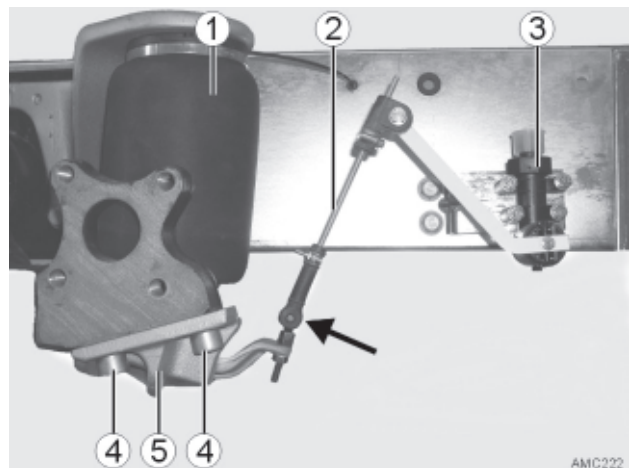

Fig. 51
19. Remove air bellows (Fig 51 - 1) as per chapter 7.2.
20. Unhook air sensor (Fig 51 -3) for the path sensor rod assembly (Fig 51 -2) (Fig 51 - Arrow).
21. Unscrew two M16x1.5x30 socket head cap bolts (Fig 51 - 4) from the bottom air bellows (Fig 51 -5).